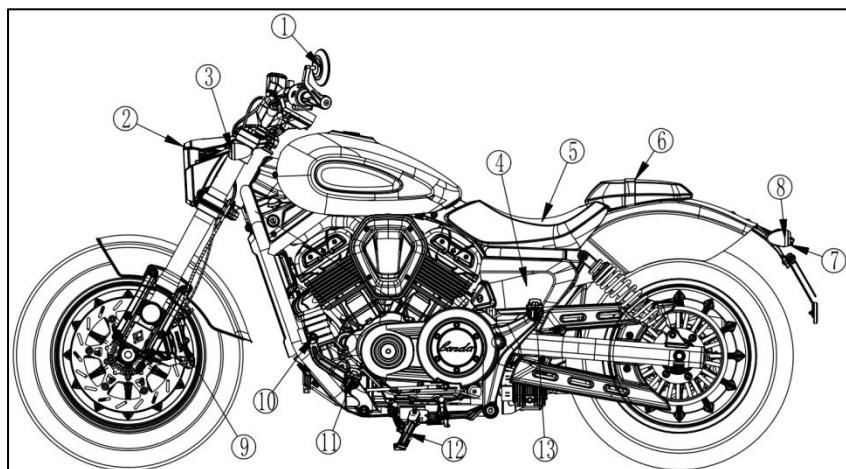
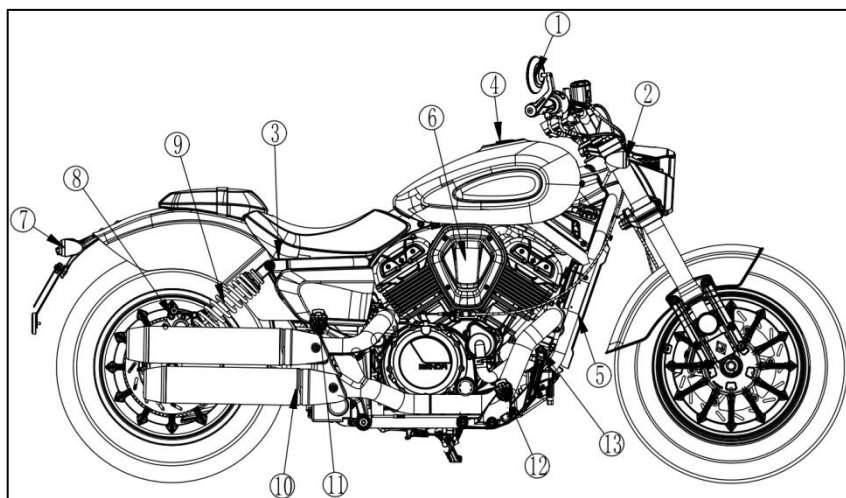
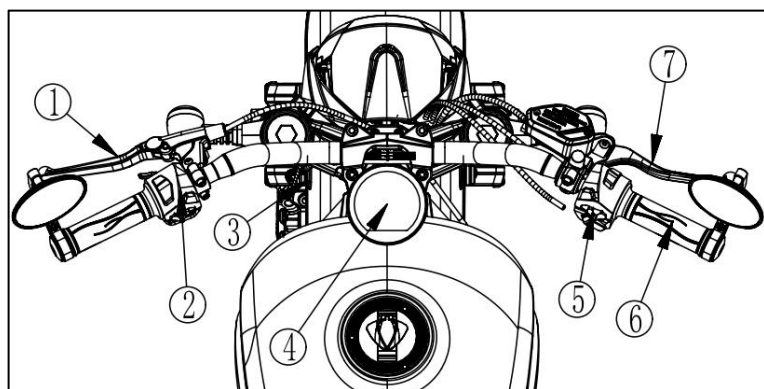

FIG1
FIG2
FIG3 Front car body
1.2 Number position (FIG 1)
1、 (Fig1)
- ① Left rear mirror
- ② Front headlight
- ③ Front left turn signal
- ④ Battery (Battery box inside the protective panel)
- ⑤ Front seat
- ⑥ Rear seat
- ⑦ Rear license plate lamp
- ⑧ Rear left turn signal
- ⑨ Front brake caliper
- ⑩ Shift lever
- ⑪ Front left foot pedal
- ⑫ Side stand
- ⑬ Rear left foot pedal
2、 (Fig2)
- ① Right rear mirror
- ② Front right turn signal
- ③ Frame VIN code
- ④ Fuel tank cap
- ⑤ Vehicle nameplate
- ⑥ Air filter
- ⑦ Rear right turn signal
- ⑧ Rear brake caliper
- ⑨ Rear shock absorber
- ⑩ Exhaust muffler
- ⑪ Right rear foot pedal
- ⑫ Front right foot pedal
- ⑬ Brake pedal
3、 Front car body (Fig3)